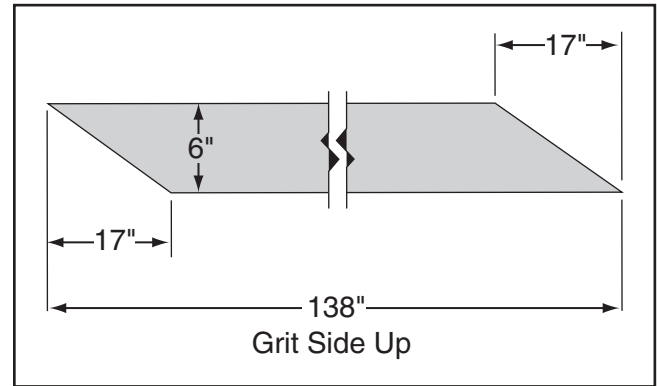
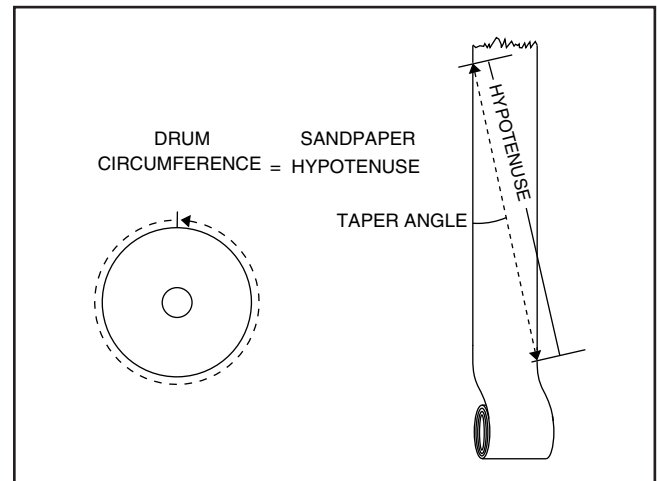

Figure 31. Sandpaper pattern.
Figure 32. Finding sandpaper taper angle.
6. Unwind the old sandpaper and use it as a pattern, or use the pattern in **Figure 31** to cut the sandpaper to the necessary shape, or see **Figure 32** if using a different width of sandpaper.